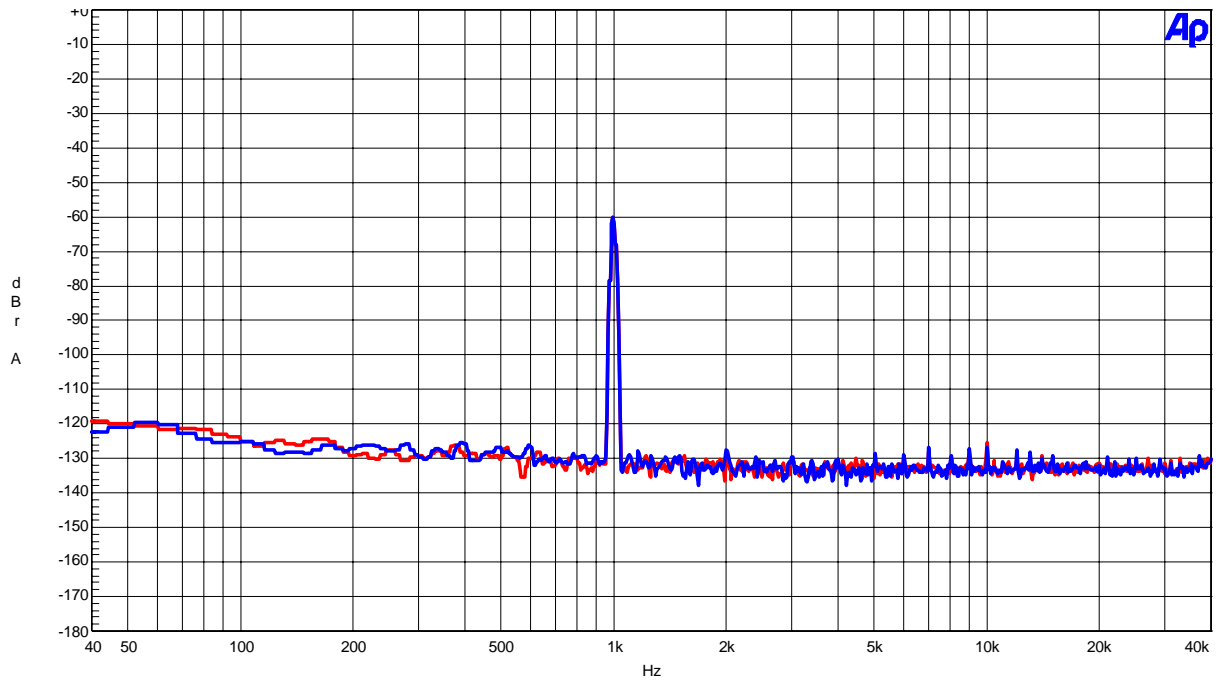

Figure 19. FFT(Input Frequency=1kHz, Input Level=-60dBFS)
- Figure 19. FFT (Input Frequency =1kHz, Input Level =-60dBFS)